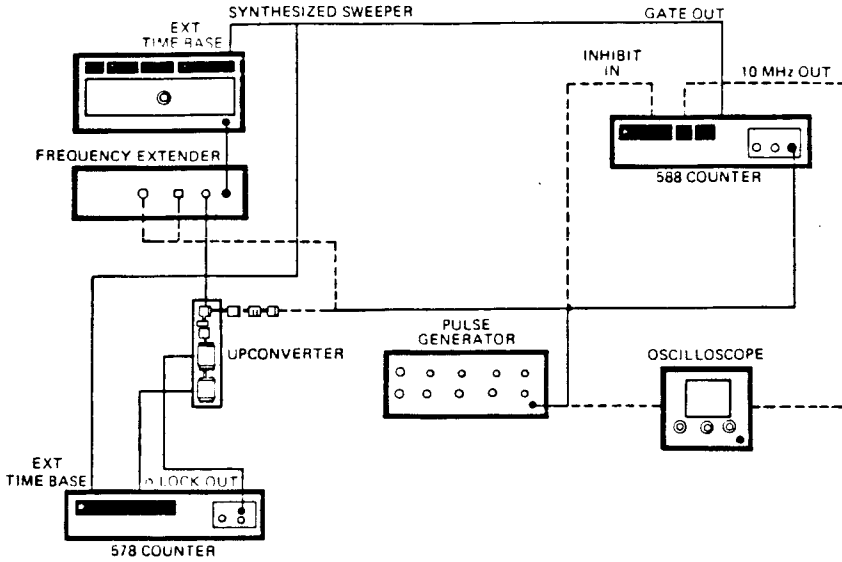

Figure 4-23. Band 3 Averaging Jitter Test Setup
1. Connect equipment as shown in Figure 4-23.